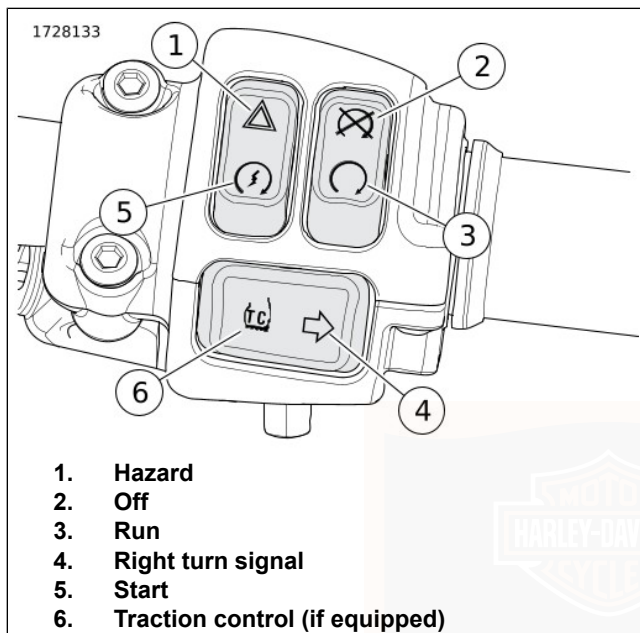

Figure 32. Right Hand Control Switches
See Figure 32. The hazard switch (1) is used to leave a stranded motorcycle in the 4-way flashing mode. With the flashers, the motorcycle can be left with the ignition off until assistance is found. Refer to Table 35.
See Figure 32. The start switch (5) is on the right handlebar control module. Refer to Table 35.
1. Switch the OFF/RUN switch to the run position (3). Shift the transmission to neutral. The neutral (green) indicator illuminates. See OPERATION > STARTING THE ENGINE (Page 98).
2. Press the start switch (5) to operate the starter motor.
See Figure 32. Press the engine OFF/RUN switch to off (2) to shut off the engine. Refer to Table 35.
See Figure 32. Push the engine OFF/RUN switch to run (3) to enable engine start and run. The engine OFF/RUN switch must be in the run position to start or operate the engine. Refer to Table 35.
See Figure 32. Press the right turn signal switch (4) to activate the right turn signal. Refer to Table 35.
See Figure 32. The traction control switch activates and deactivates the traction control system on equipped vehicles. Refer to Table 35.